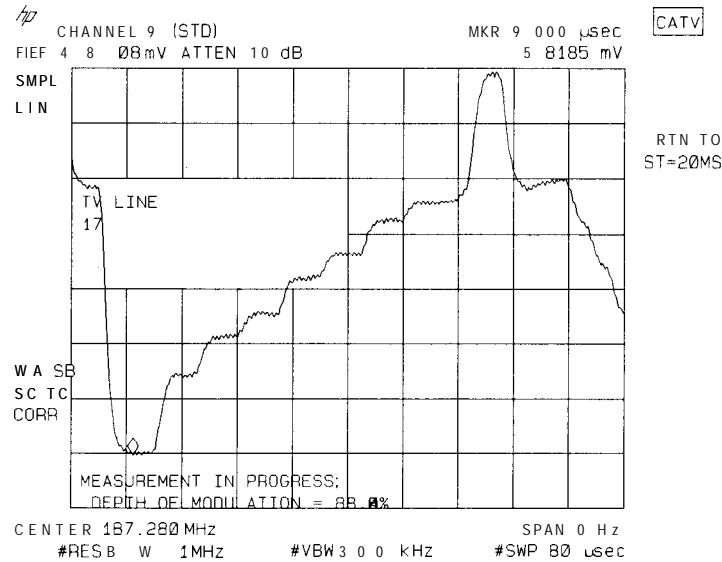

Figure 2-13.
4. Press TV LINE # . Line 17 appears as in shown in Figure 2-13.